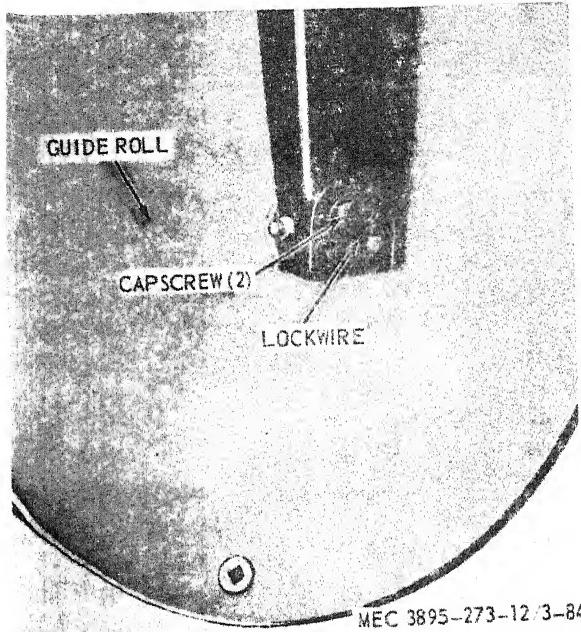

Figure 3-79. Guide roll adjustment.
a. For initial adjustment after maintenance on guide rolls, axle, or bearings, tighten capscrews equal number of turns at both ends of axle (fig. 3-79). Then tighten capscrews firmly at one end of axle. If extreme torque is applied to capscrews, the roll will bind. Secure adjustment with lockwire.
- (1) Guide roll adjustment. See figure 3-79.